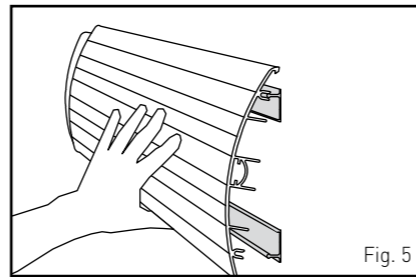

Fig. 5
- Clip the PVC profile onto the brackets or rails by striking it firmly. Use a mallet if necessary. Ensure that the PVC profile is correctly clipped on all the brackets or along the full length of the rail (see Fig. 5 and 6).